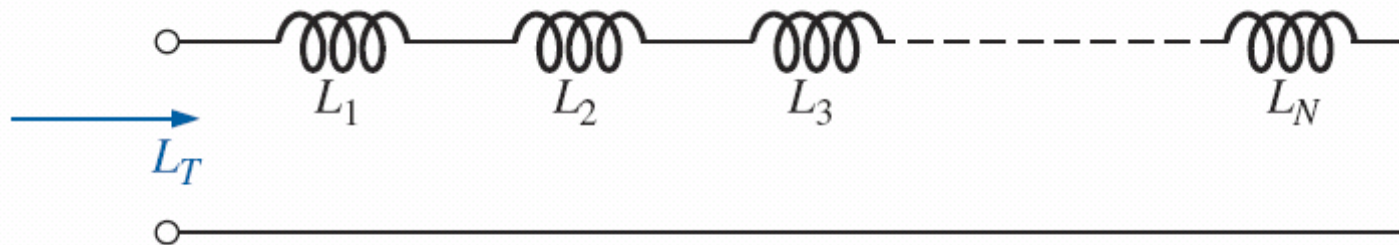

FIG. 11.56 *Inductors in series.*
- For inductors in series, the total inductance is found in the same manner as the total resistance of resistors in series (Fig. 11.56):